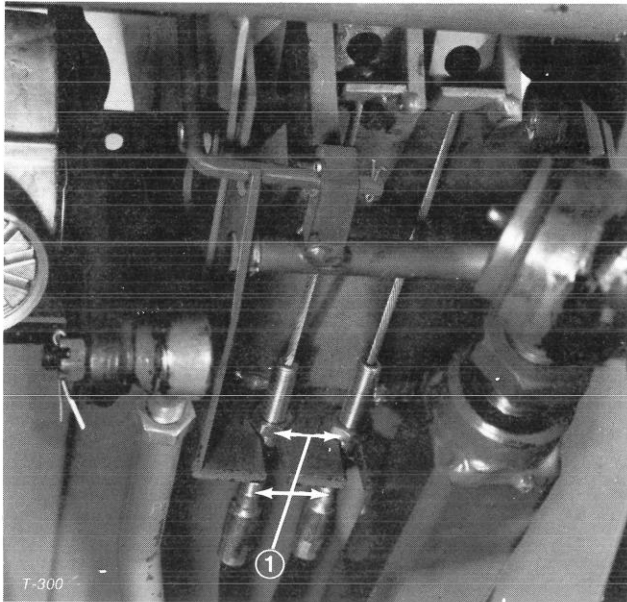

Figure 58
1. To reduce free travel of turn pedals — tighten the brakes — loosen front nut on threaded end of brake cable (Fig. 58). Then tighten rear nut to move cable backward until turn pedals have 1/2 to 1 inch (13 to 25 mm) of free travel. Tighten front nut after brakes are adjusted correctly.